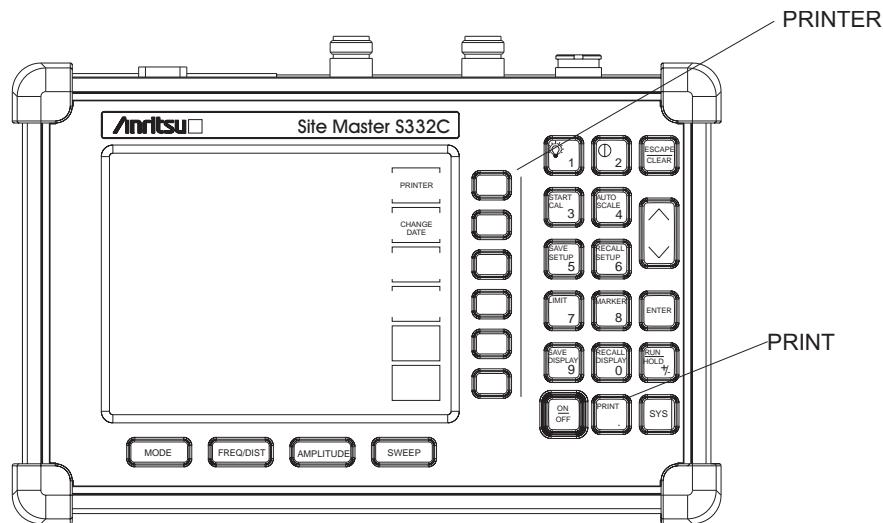

Figure 3-6-. PRINTER Soft Key and PRINT Key
**Step 5.** Press the **PRINT** key. (Figure 3-6).